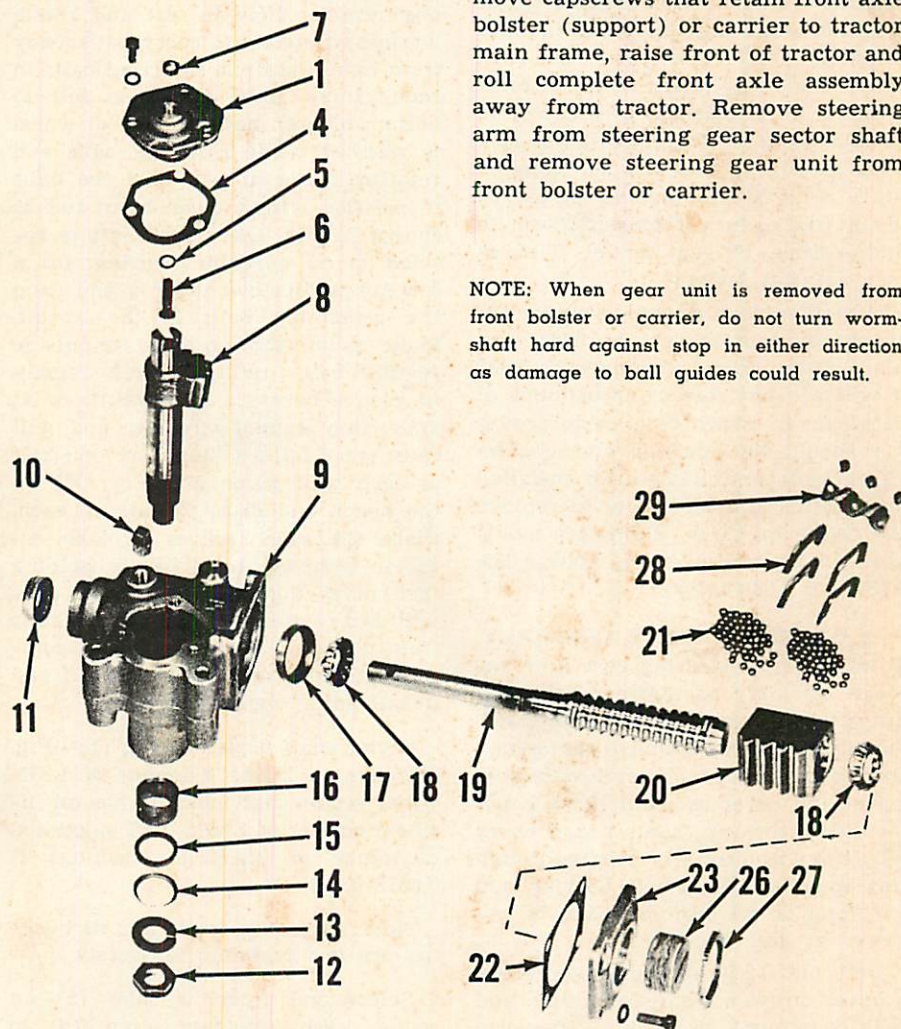
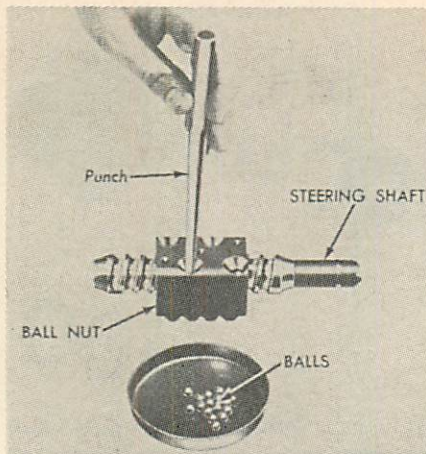

Fig. O5 — Exploded view of Saginaw steering gear assembly used on manual steering models.
Fig. O6 — Using punch to align ball nut with wormgear and to fill ball circuit.
Remove steering gear unit as outlined in paragraph 9. Loosen lash adjusting screw (6—Fig. O5) several turns to relieve any load that may be imposed by the meshing of sector and worm gears. Loosen lock nut (27) and turn adjuster (26) inward until 8-12 in.-lbs. torque is required to rotate the worm shaft. Tighten lock nut and re-check. Adjust sector mesh as outlined in paragraph 11.
11. SECTOR MESH (BACKLASH) ADJUSTMENT. This adjustment is controlled by lash adjuster screw (6); however, before making any adjustment, make sure that the wormshaft adjustment is correct as specified in paragraph 10.
To reassemble ball nut, place nut over middle section of worm as shown in Fig. O6. Drop bearing balls into one retainer hole in nut and rotate wormshaft slowly to carry balls away from hole. Continue inserting balls in each circuit until circuit is full to bottom of both holes. If end of worm is reached while inserting balls and rotating worm in nut, hold the balls in position with a clean blunt rod as shown in Fig. O6 while shaft is rotated in an opposite direction for a few turns. Remove the rod and drop the remaining balls in the circuit. Make certain that no balls are outside regular ball circuits. If balls remain in groove between two circuits or at ends, they cannot circulate and will cause gear failure. Next, lay one-half of each split guide (28—Fig. O5) on the bench and place 13 balls in each. Place the other halves of each retainer over the balls. While holding the halves together, plug their ends with heavy grease to prevent the balls from dropping out; then, insert complete retainer units in worm nut and install guide clamp.
Sector shaft large bushing (16—Fig. O5) has an inside diameter of 1.375. Other sector shaft bushing has an inside diameter of 1.0625. I&T suggested clearance of shaft in bushings is 0.0015-0.003.